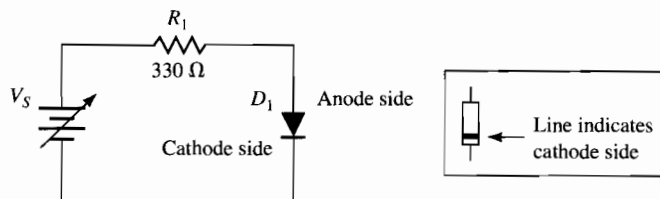

Figure 31–1
2. Construct the forward-biased circuit shown in Figure 31–1. The line on the diode indicates the cathode side of the diode. Set the power supply for zero volts.